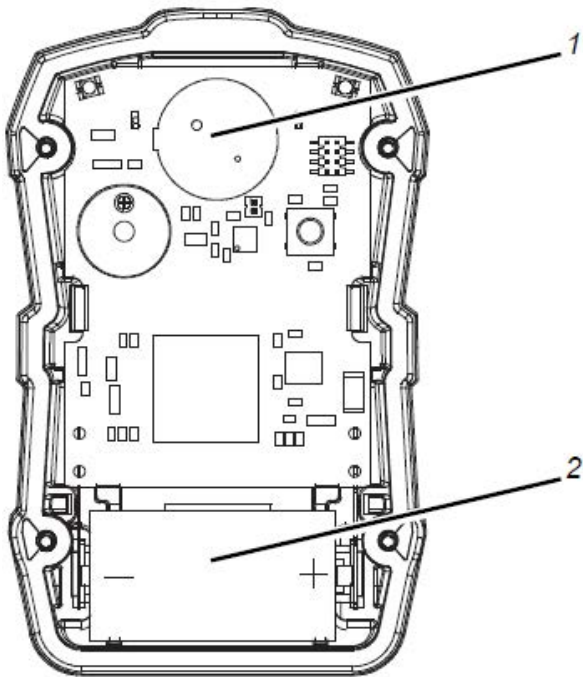

Figure 14 Sensor and Battery Replacement
2. Remove the four case screws and remove the front case to expose the sensor (located near the top of the device, near the alarm lights → Figure 14).